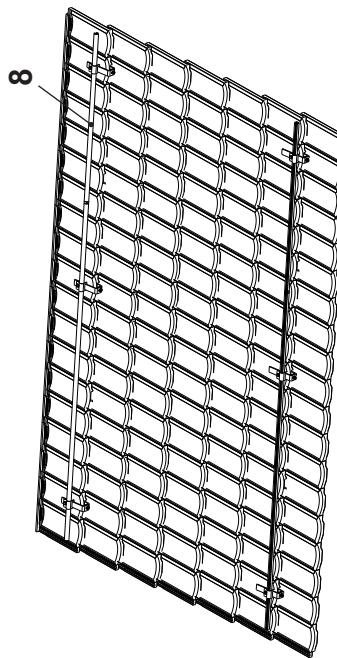

Figure 17
24. Install the upper holder tube section (8, Figure 17) as described in steps 19 and 20